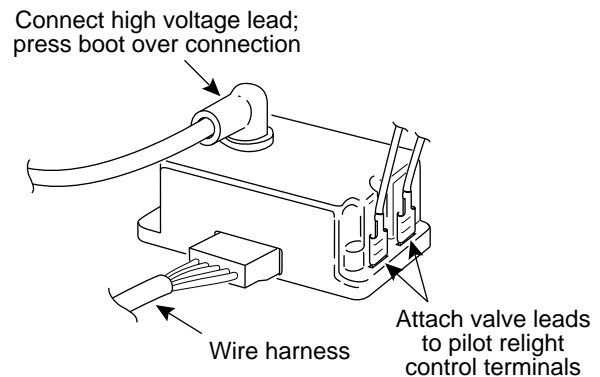

Figure 2. 50A22 Pilot relight/timer connections
- b. Connect the high voltage lead to the terminal on top of the 50A22, after feeding the lead through the angled insulation boot. Press the boot over the connection (see fig. 2). Avoid excessive strain on the ignition cable, as this may cause the cable to pull out of the ceramic. (The ignition cable is held in the ceramic by a push-on connector.)